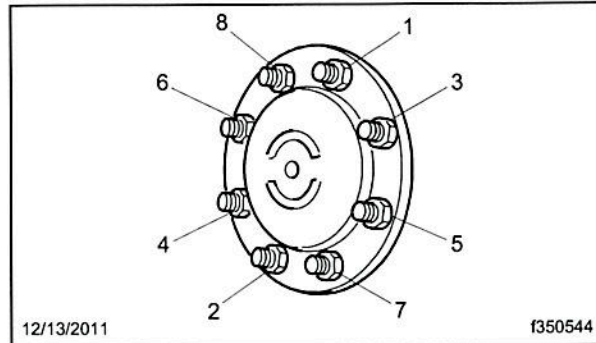

Fig. 9, Tightening Sequence, Axle Shaft Fasteners
18. Install the Grade 8 nuts and hardened washers onto the stud. Lock washers are an acceptable alternative. Tighten the stud nuts in the sequence shown in Fig. 9 to the torque specified in Table 3.